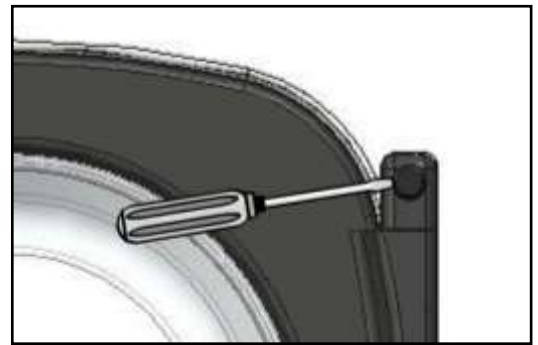

Fig. 13.2
- Remove the protective caps of the hinge locking screws (Fig. 13.2). In models RMS/RMG628, REM/RMG070, HS-6024, HS6032, EH060 and EH080, first remove the plastic guard (Fig.13.3/A).